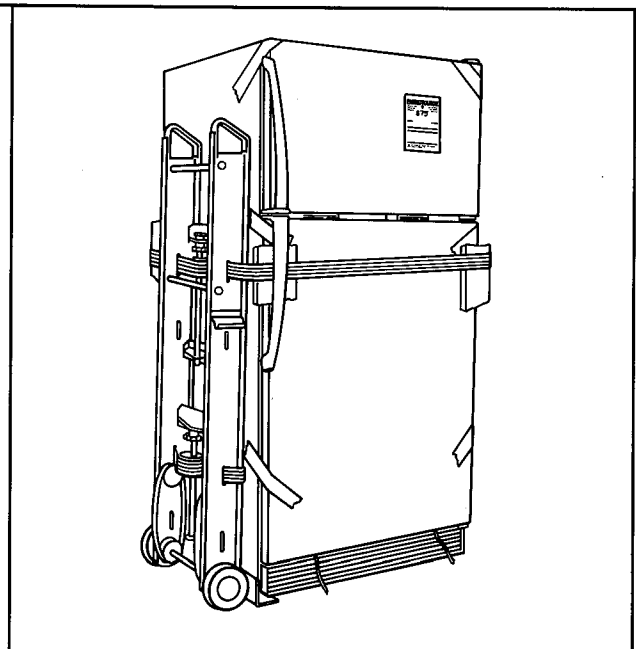

Figure 3
4. Thread strap from cart around refrigerator, putting strap between refrigerator door and door handle. See Figure 3.